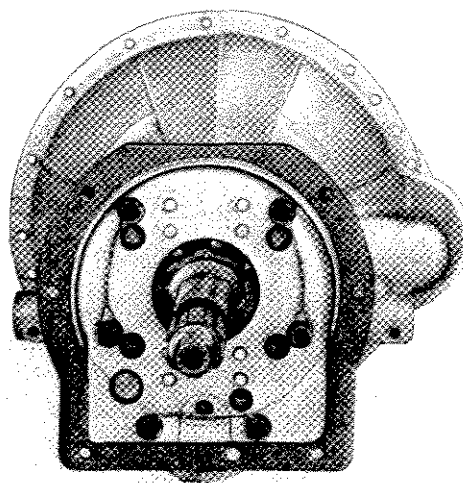

Fig. 3. Showing the wire locking of adaptor plate bolts
1. Dismantle the gearbox as described on page 2-206 and replace the existing mainshaft with a shorter overdrive mainshaft. Reassemble the gearbox and in place of the normal gearbox rear extension fit the overdrive adaptor and gasket as shown on Fig. 3. Coat a paper gasket on both sides with jointing compound and fit it over the studs on the overdrive mounting flange.